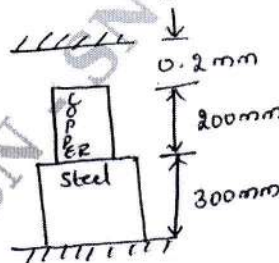

Fig. Q2 (b)
- 2 a. Derive a relation between young's modulus (E) and modulus of rigidity (G). (10 Marks)
- b. A composite bar shown in Fig. Q2 (b) is 0.2 mm short a distance between the rigid supports at room temperature. What is maximum temperature rise which will not produce stress in the bar? Find stresses induced when temperature rise is 40°C . Given $\alpha_s = 12 \times 10^{-6} \text{ per } ^\circ\text{C}$, $\alpha_c = 17.5 \times 10^{-6} \text{ per } ^\circ\text{C}$, $E_s = 2 \times 10^5 \text{ N/mm}^2$, $E_c = 1.2 \times 10^5 \text{ N/mm}^2$, $A_s : A_c = 4 : 3$